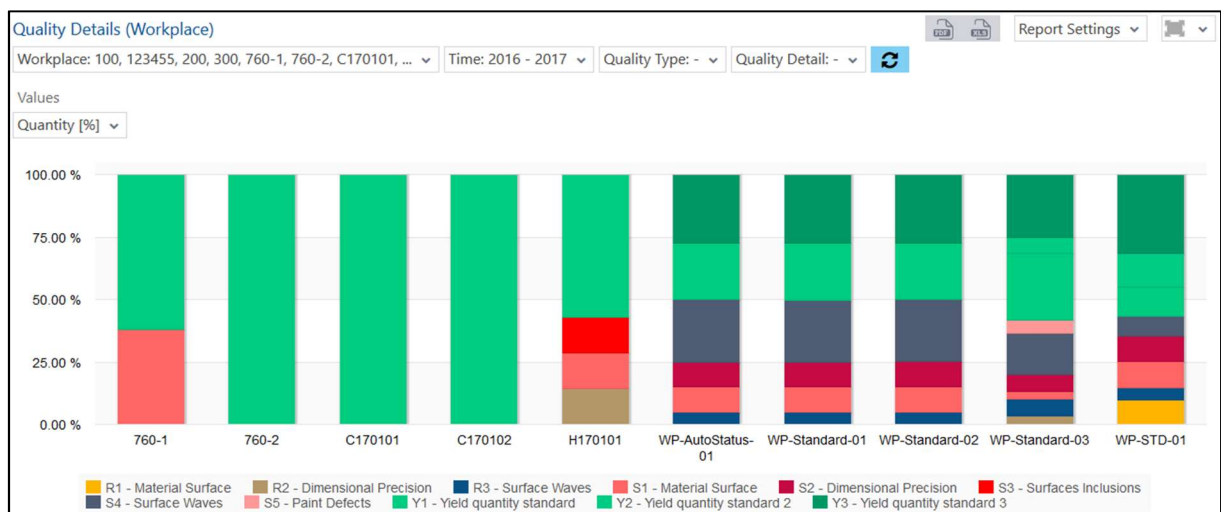

Fig. 99: Quality Details (Workplace) as a column chart
- Quality Details (Workplace) as a column chart (Fig. 99):